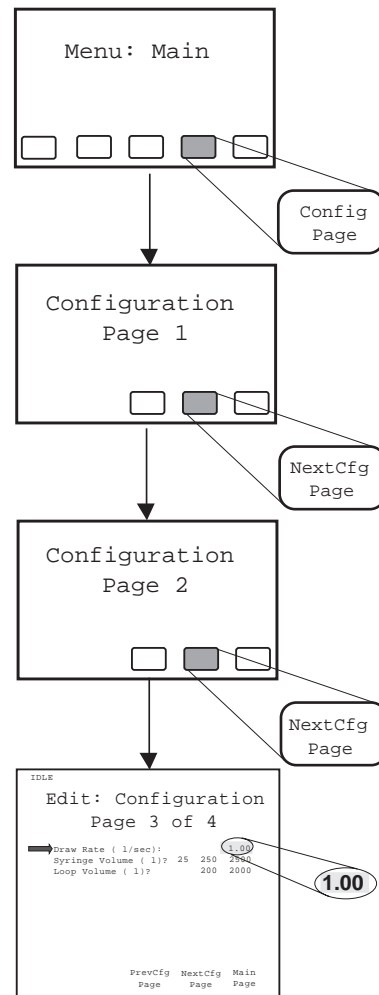

Figure 4-28 Setting Sample Draw Rate
3. If required by sample viscosity, change the draw rate (see Figure 4-28).
4. If required by sample viscosity, change the draw rate (see Figure 4-28).
To change the sample draw rate, press the keys indicated in Figure 4-28.